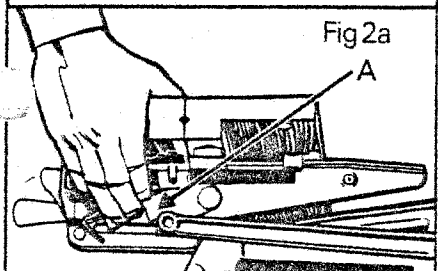

Fig 2a
- 2 Lift the two safety catches (see Fig. 2a) and let the weight of the vice bars close the unit to a folded position.